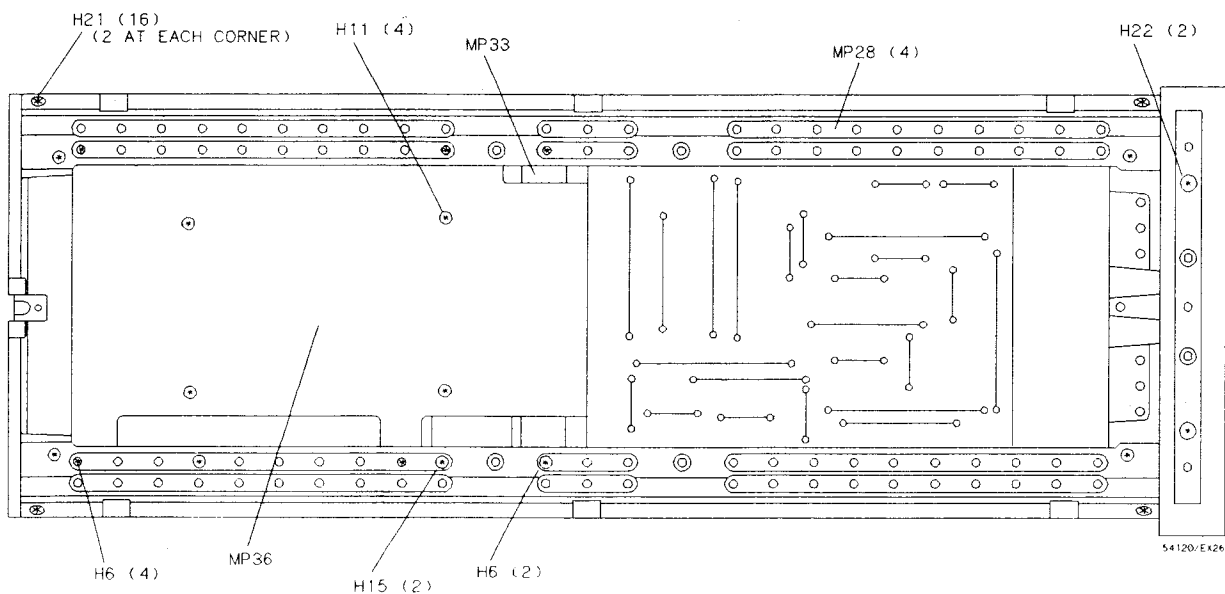

Figure 5-5. Left Side View
- 5-7 Figure 5-5. Left Side View